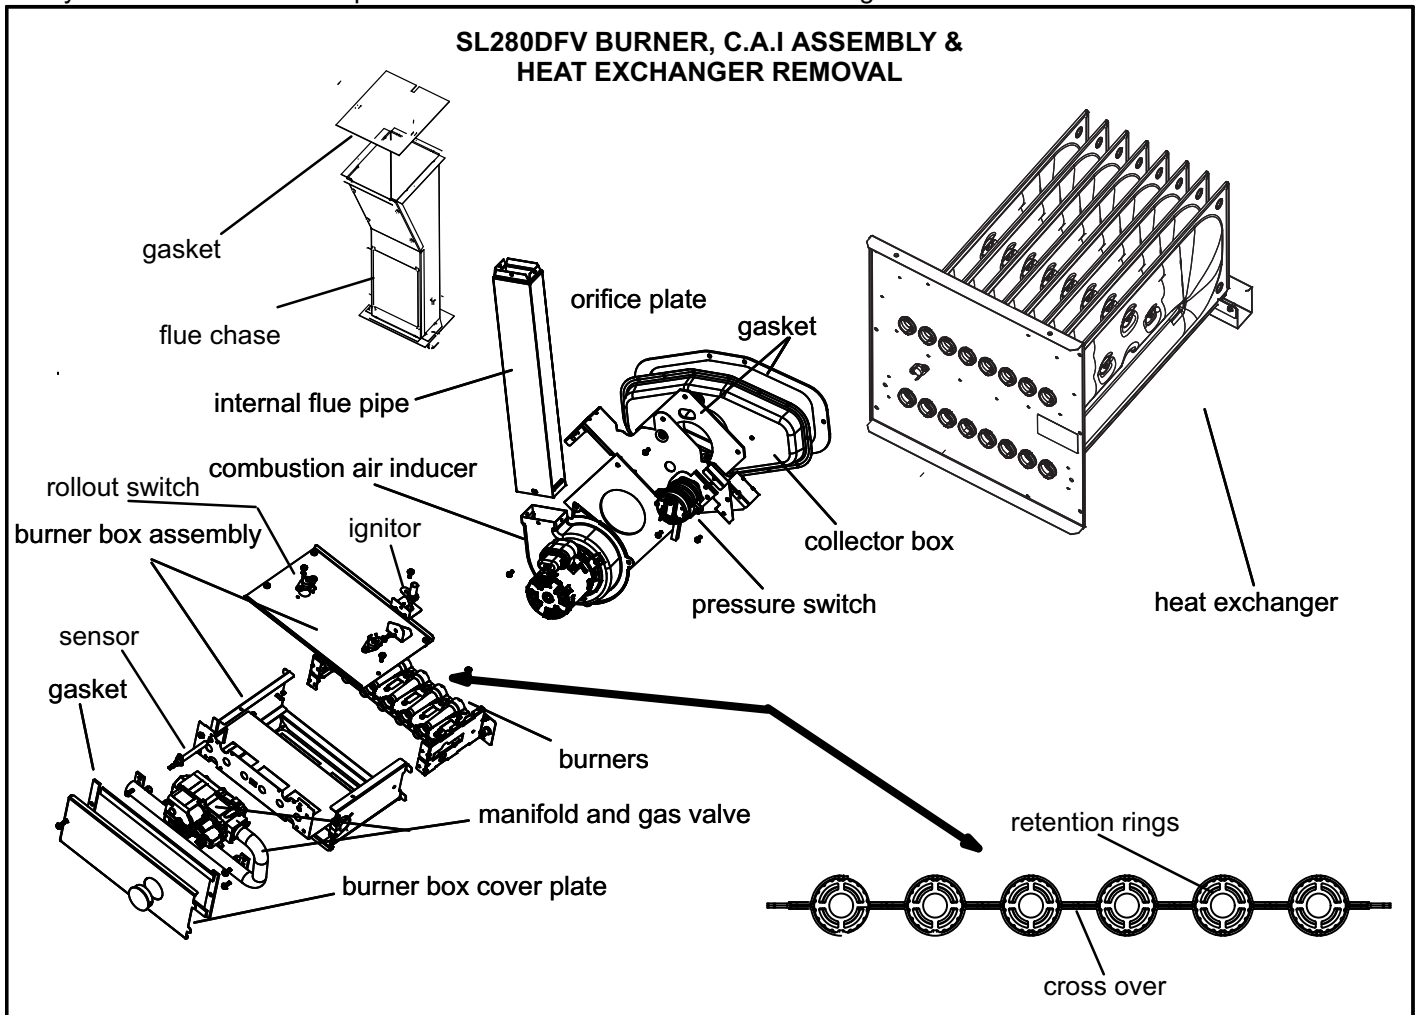

FIGURE 19
- 11- To clean burners, run a vacuum cleaner with a soft brush attachment over the face of burners. Visually inspect inside the burners and crossovers for any blockage caused by foreign matter. Remove any blockage. Figure 19 shows burner detail.